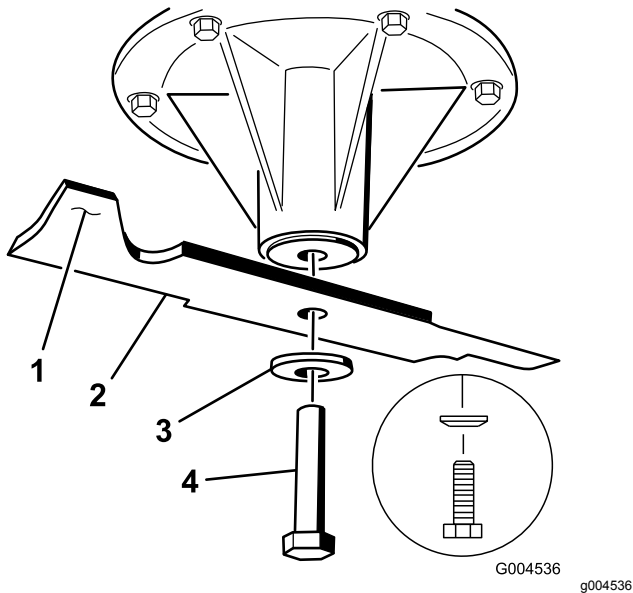

Figure 98
1. Install the blade onto the spindle shaft (Figure 98).
2. Install the spring disk and blade bolt (Figure 98).
- Note:** The spring-disk cone must be installed toward the bolt head (Figure 98).